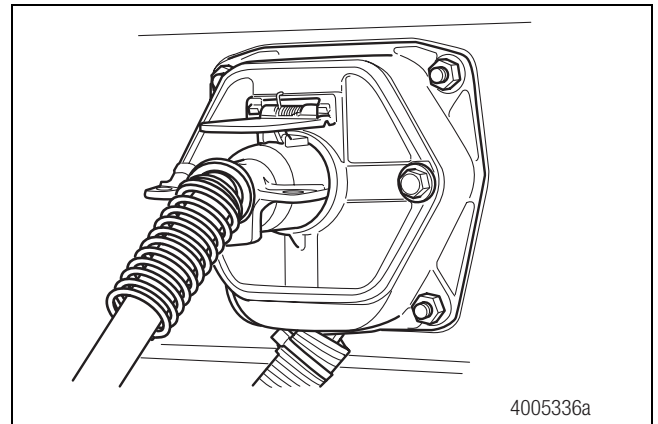

Figure 3.2
4. Connect a 12-volt power source to the trailer seven-way box. Figure 3.2.